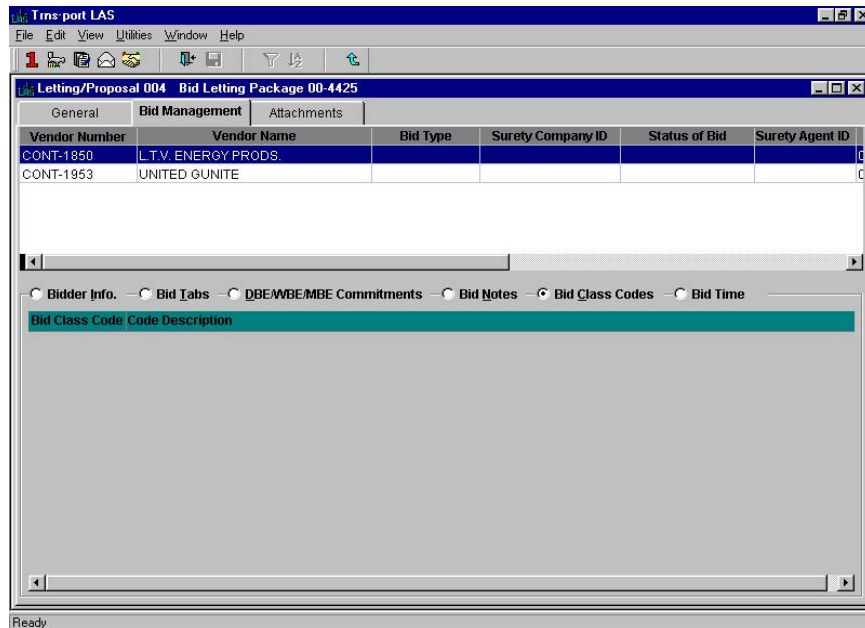

Figure 8-21. Bid Management Tab with Bid Class Codes Detail Page Displayed
3. Click the BID MANAGEMENT tab and select the bidder you want to change in the top part of the tab (see Figure 8-21).